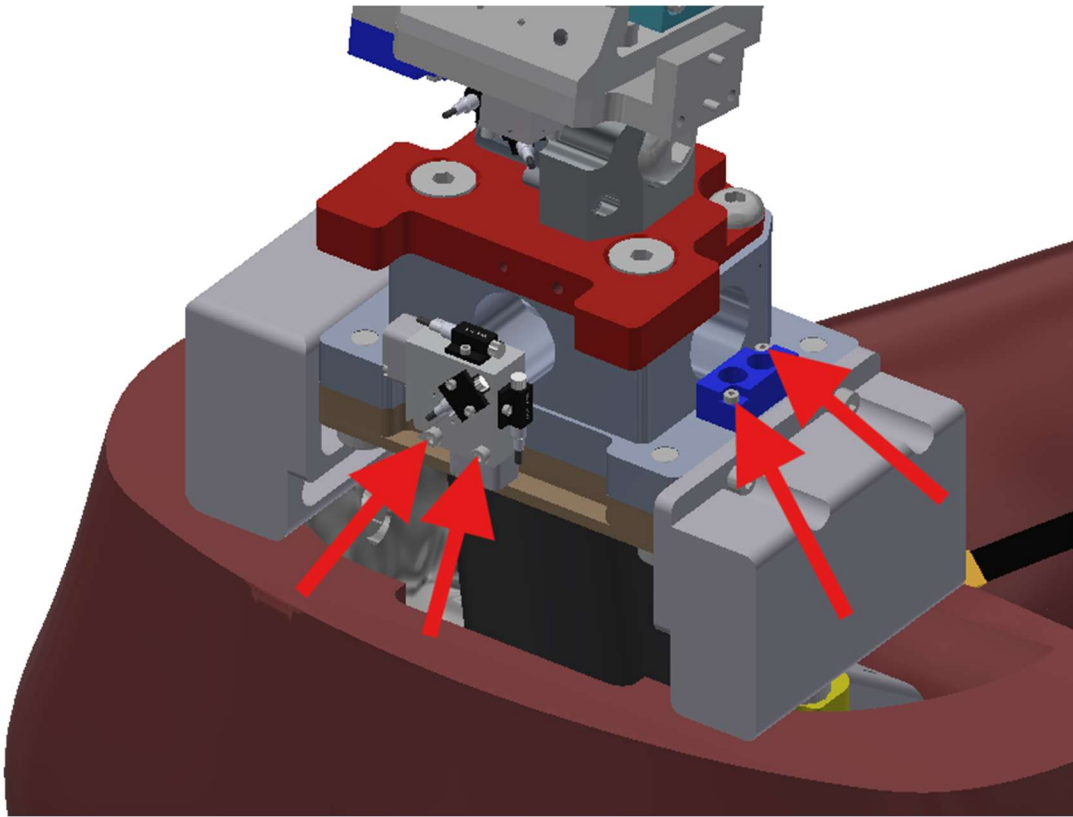

Figure 5-32. Remove the T12 tilt sensor (SA572-S44) and the 7264C/ARS-1500 Mount (474-3067) from the rear of the spine assembly (474-3200-A)
- 5.2.27 Remove the 7264C/ARS-1500 Mount (474-3067) from the rear of the spine assembly (474-3200-A) by removing two M2.5 X 0.45 X 16 LG. SHCS (Figure 5-32).
- 5.2.28 Remove the T12 Tilt Sensor (SA572-S44) from the Thoracic Spine Load Cell (SA572-S107) by removing two M2 X 0.4 X 10 LG. SHCS (Figure 5-32).